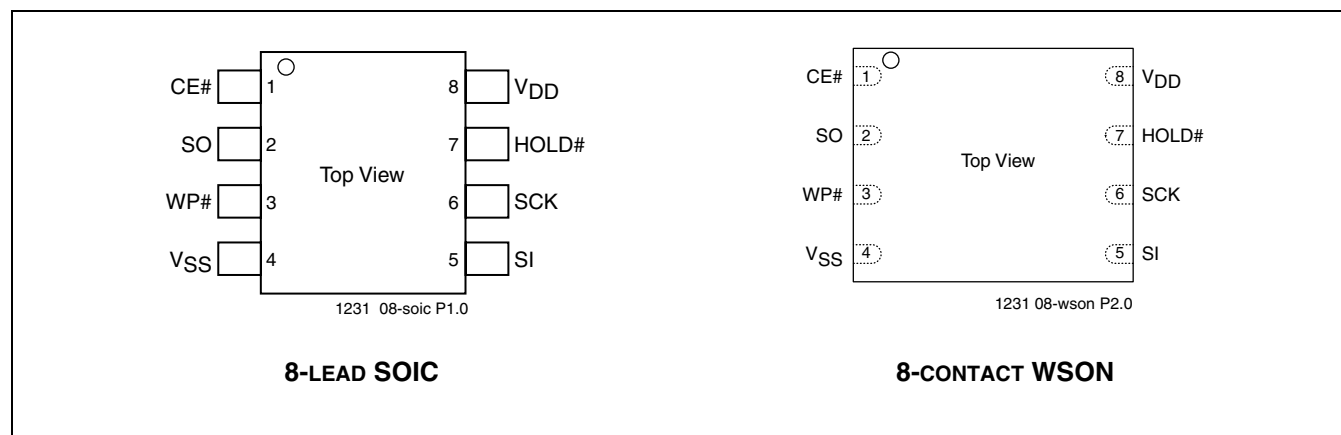

FIGURE 2: Pin Assignments
The SST25VF020 device is offered in an 8-lead SOIC 150 mil body width (SA) package, and in an 8-contact WSON package. See Figure 2 for the pin assignments.